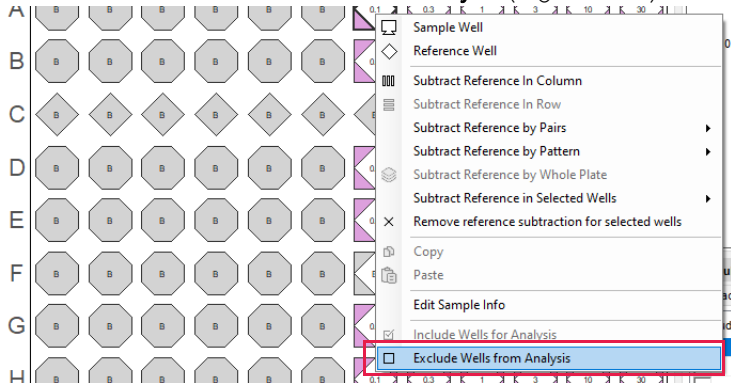

Figure 4-57: Excluding Sample/Load Wells in Sample Plate
- **In the Reference Sample tab** - Select the sample/load well locations in the sample plate. Right-click the plate and select **Exclude Wells From Analysis** (Figure 4-57).